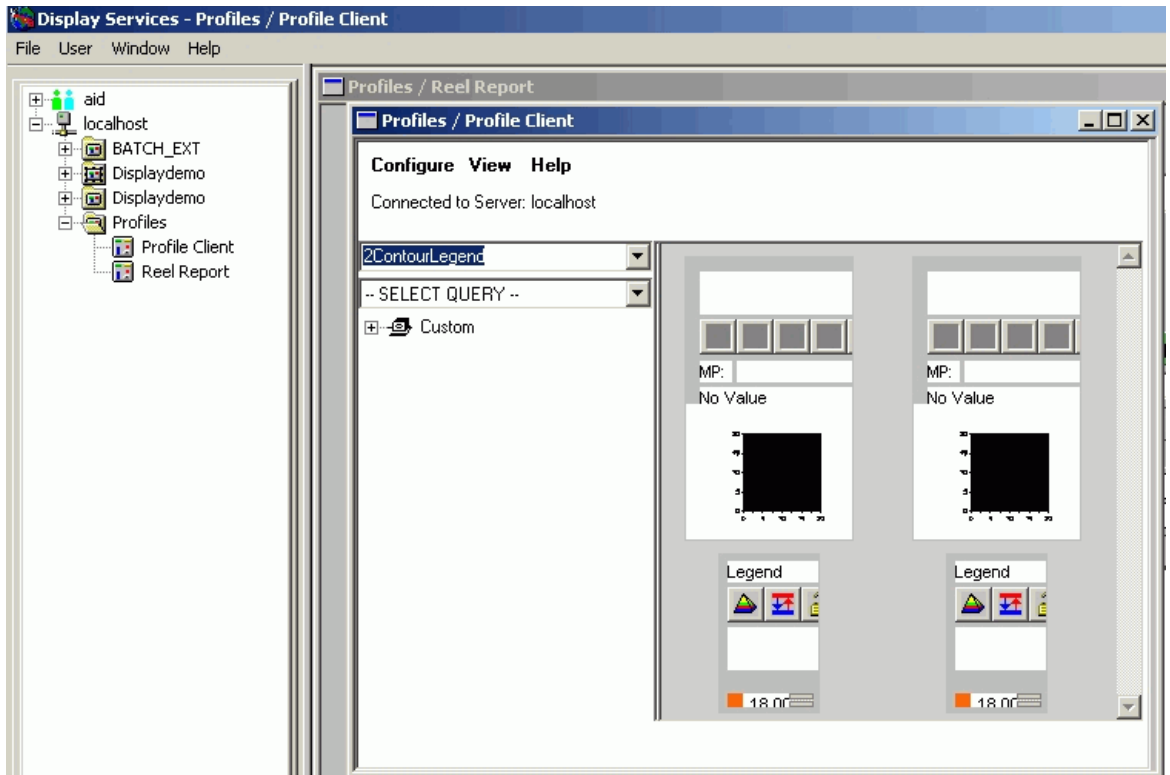

Figure 13. Launching the Profile Client Display
3. Use the Display Client navigation tool to select and launch the Profile Client display. The path is **localhost > Profiles > Profile Client**, Figure 13.